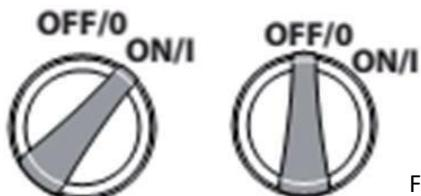

Fig. 3
5. Set the power button to the "I" position (Fig. 3).
2. Set the switch to the "O" position (Fig. 3).
2. Turn off the power button (position "O", Fig. 3).